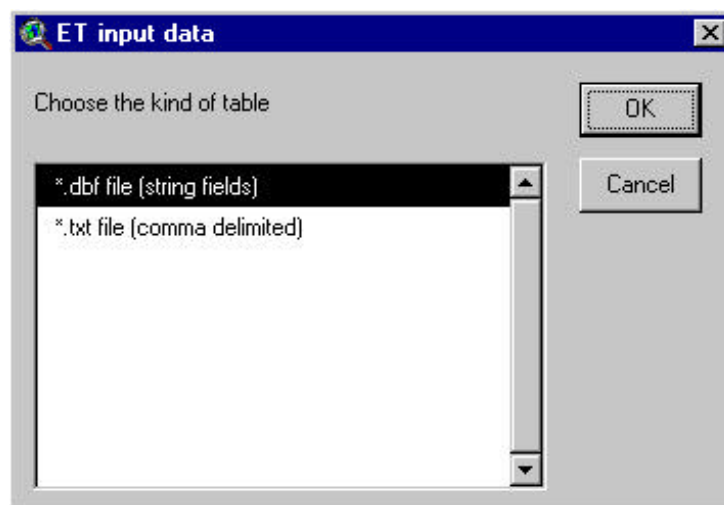

Figure 13.7
- ii. A prompt box is displayed (Figure 13.7).